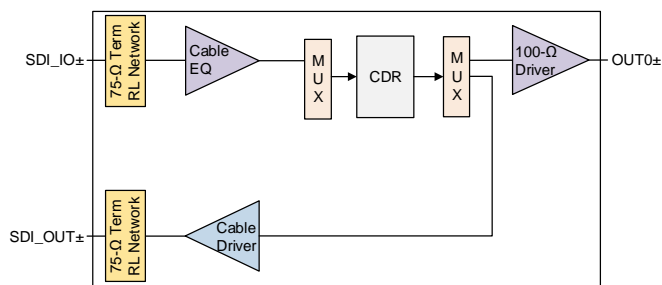
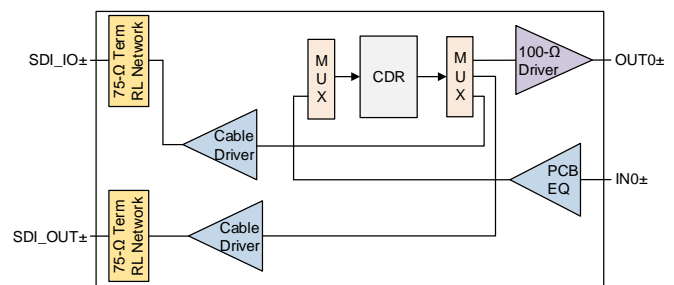

Figure 3. LMH1297 Signal Path in EQ Mode
Figure 4. LMH1297 Signal Path in CD Mode
The signal paths of the LMH1297 in Equalizer (EQ) Mode and Cable Driver (CD) Mode are shown in Figure 3 and Figure 4, respectively.